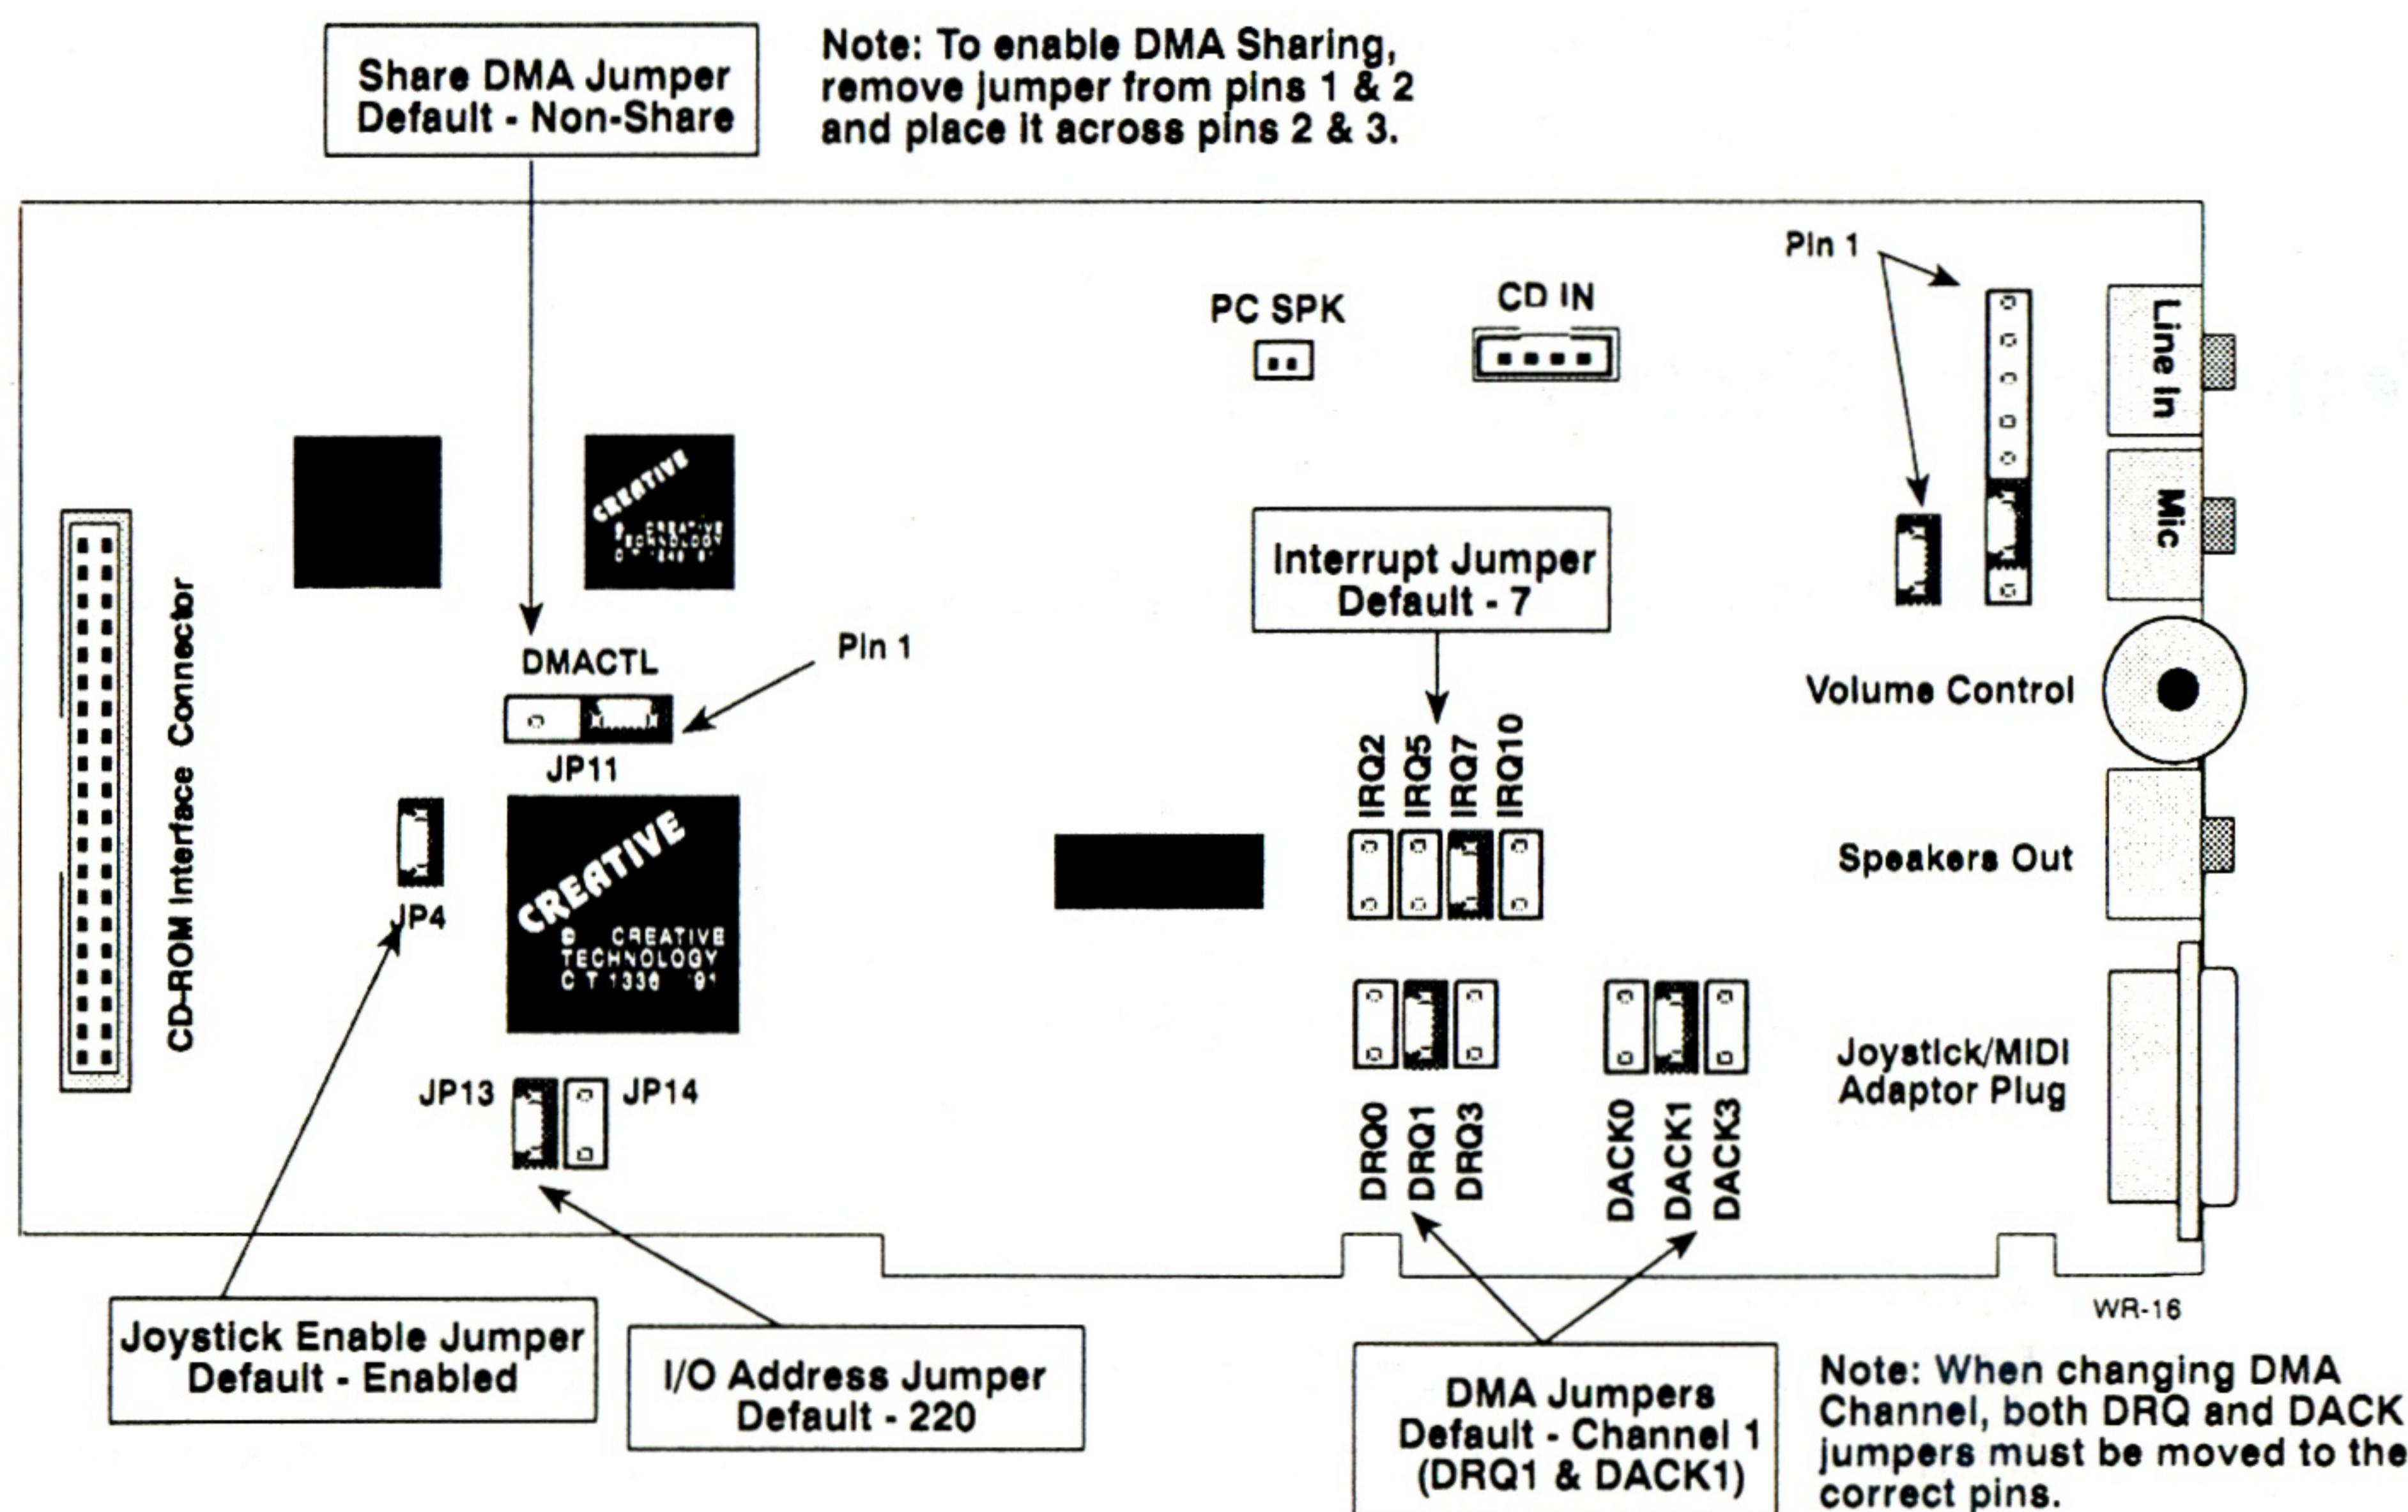

Figure 1: Jumper Locations and Settings
2. If you have a game card or a card with a joystick port already installed, either remove it or disable the joystick port on the Sound Blaster Pro card by removing jumper JP4 (see Figure 1).
For those who wish to change the settings, switch off the computer and remove the Sound Blaster Pro card. To locate the jumpers, refer to Figure 1.